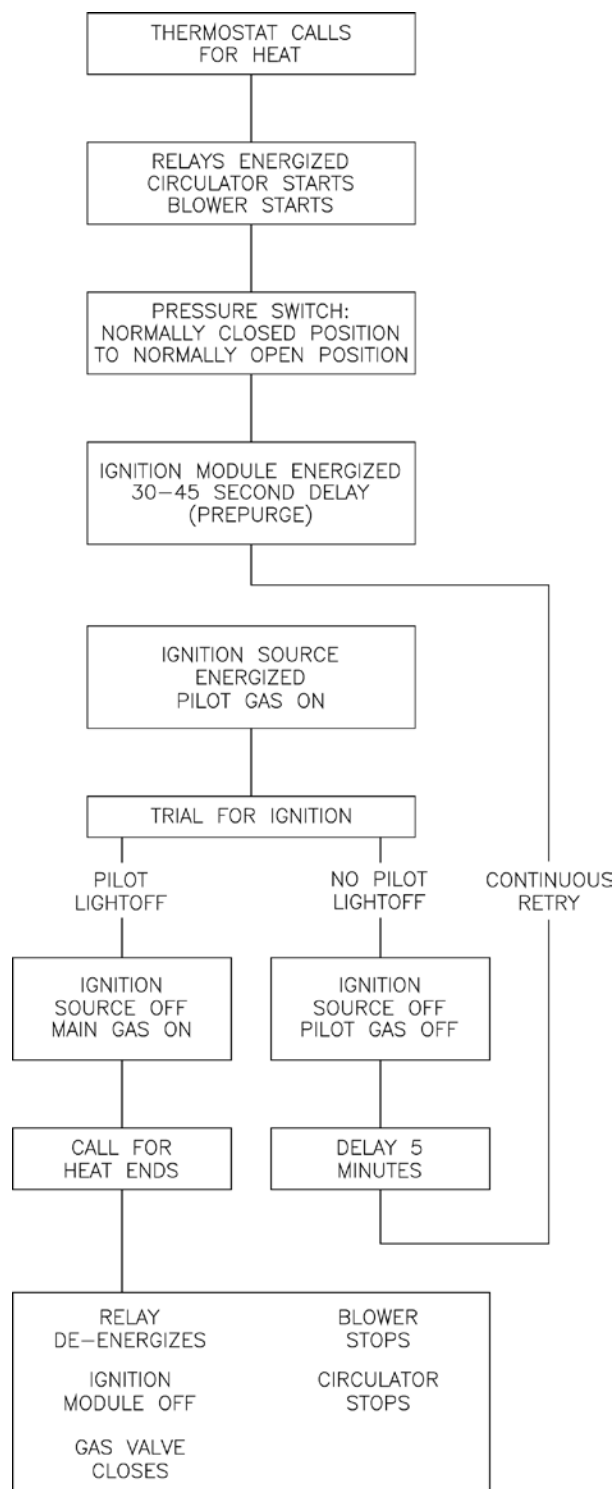

Figure 25: Sequence of Operation
- I. Sequence of Operation.** See Figure 25. If boiler fails to operate properly, see Troubleshooting Tree in Section IX: Service.